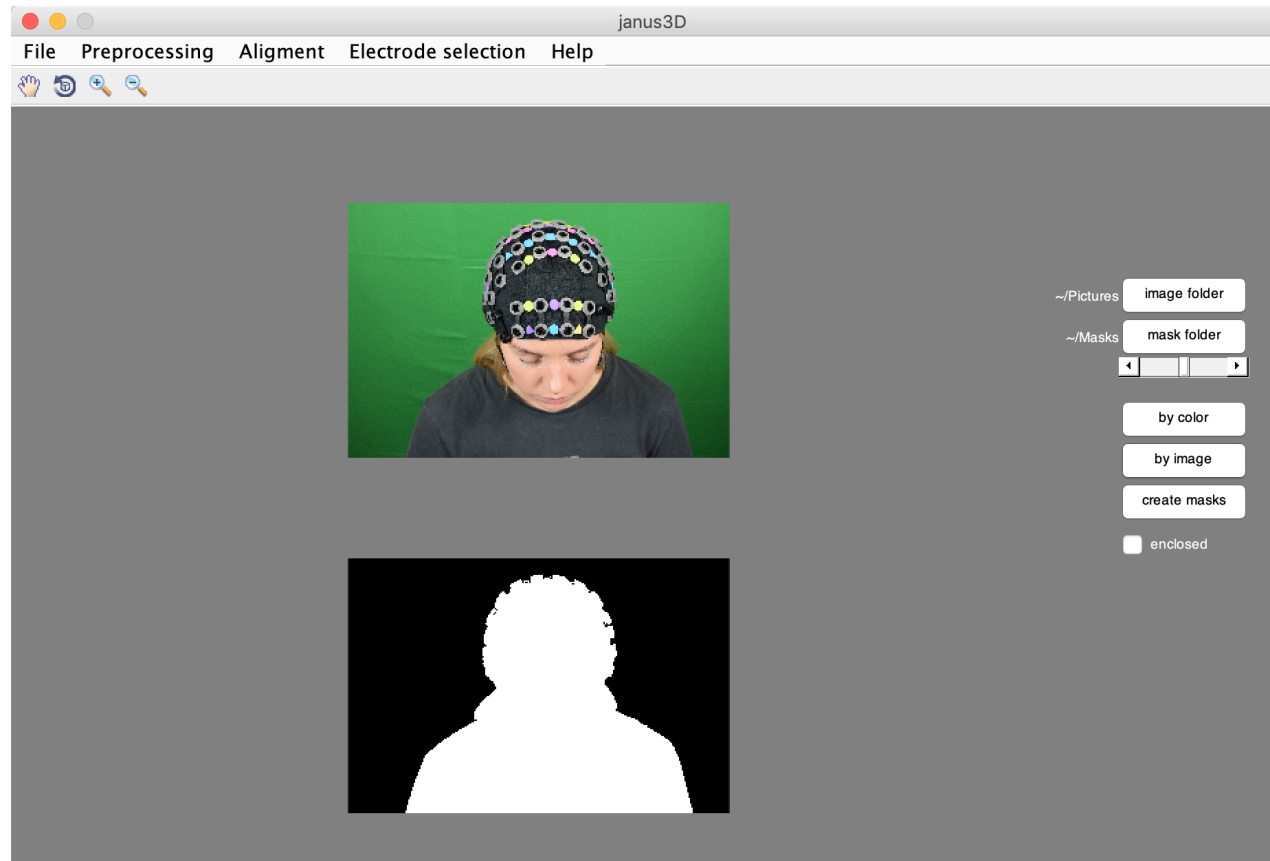

Figure 10. Creating the masks in Janus3D
5. Double click on the picture. If the sample mask looks accurate (meaning only the background is black), click “create masks” (Figure 10). Otherwise, you can repeat this step until the mask looks accurate. The software then creates the masks for all the pictures in the folder.